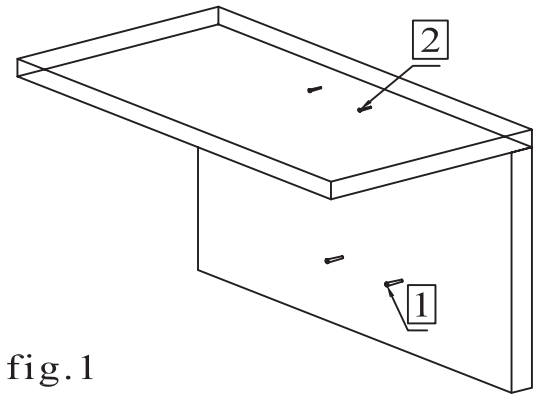

fig. 1
**Step one:** Find the center of the wall where you are installing the hood. Make sure there is sufficient bracing to hold the weight of the hood. Mark your center line and measure out from center to find your two mounting points. Make sure your mounting points are level when you mark them. It is recommended to install the hood directly into wood supports. fig 1
**Step two:** Mark your mounting points and install the two mounting screws provided leaving the heads out 1/4" to mount hood. fig 1